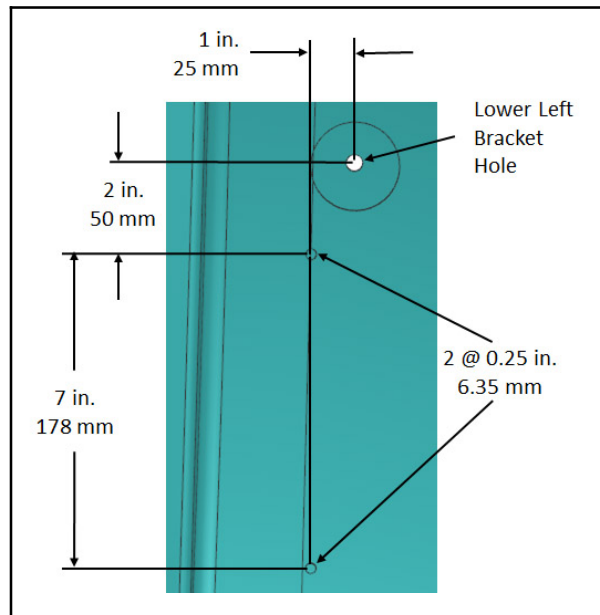

**FIG. 5 - M20/T20/M30**
5. From the inside the front shroud, drill a 2 in. (51 mm) hole at the previously drilled locations. **Do Not** drill into/through the front of the front shroud. (Fig. 5)